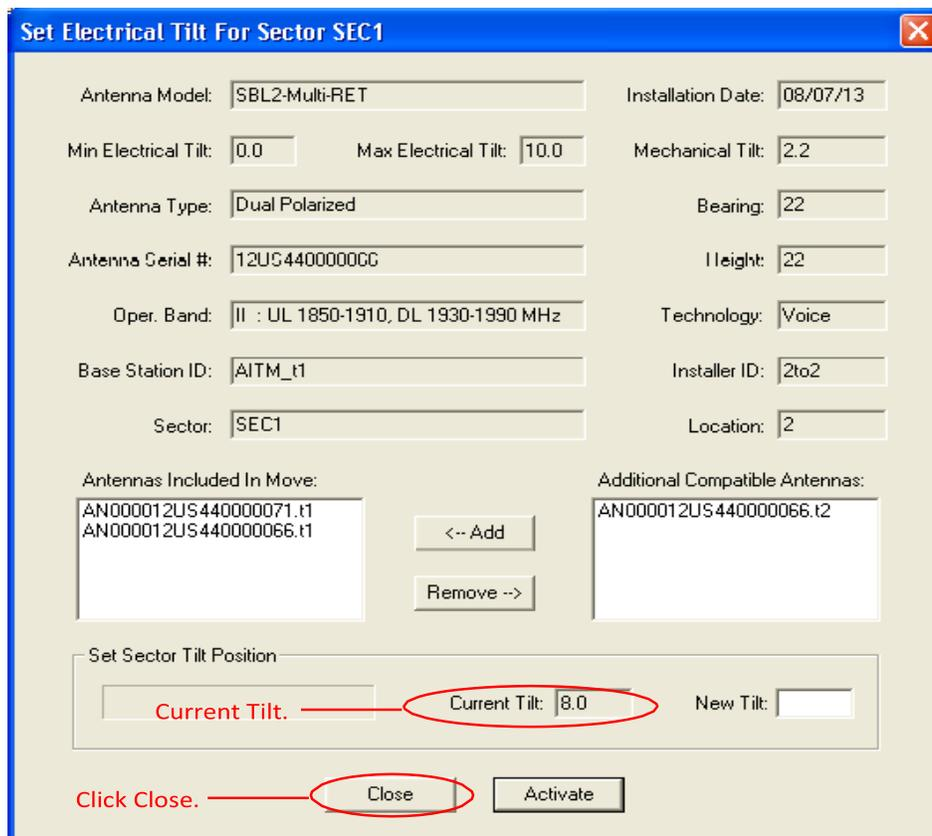

Figure 8-10. Closing Sector Move Screen
11. The **Set Electrical Tilt for Sector** screen will display the new electrical tilt setting in the **Current Tilt** field. At this point, either additional tilt angles may be applied or you may return to the main screen. To return to the main screen, click **Close** (Figure 8-10).